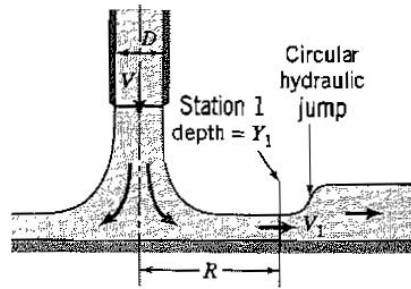

Figure P10.49
10.49 A circular jet of water impinges on a flat plate as shown in Figure P10.49. The water spreads out equally in all directions and at station 1, the flow is essentially uniform over the depth Y_1 . The jet exit velocity V is 10 m/s and the exit diameter D is 10 mm . If you are given that $R = 8D$, and $Y_1 = D/4$